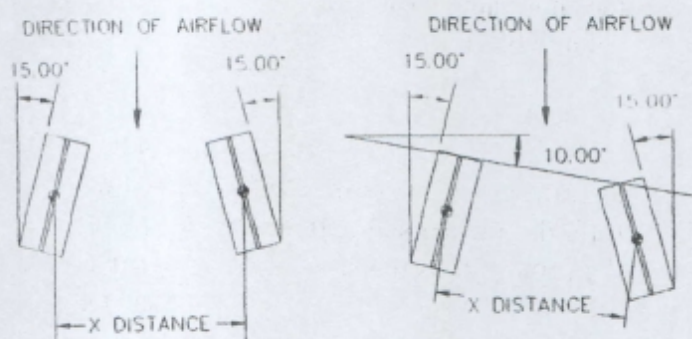

FIG. 6
- 5.1 The installation procedures described above has assumed that the vortex generators are placed in a row that is perpendicular to the airstream. This may not always be the case. Some wings for example may not have a leading edge perpendicular to the airstream but have a sweepback to the airstream. In this case a template will have to be made to match the sweepback of the wing. Figure 6 illustrates what the vortex generator layout would look like if for example a wing had a 10° sweepback. It may look peculiar; however, the object is always to keep the vortex generator at an angle of 15° to the airstream. Also note that the distance between vortex generators is measured from the mid point of the vortex
generator as illustrated in figure 6. If a horizontal tail has a hinge line that is swept it would be a similar situation as that shown in figure 6. The situation would be different for a vertical tail that has a swept hinge line as all the vortex generators are not staggered. This would require that all the vortex generators would need the same angle of correction. If the aircraft has a tapered wing it will be necessary to